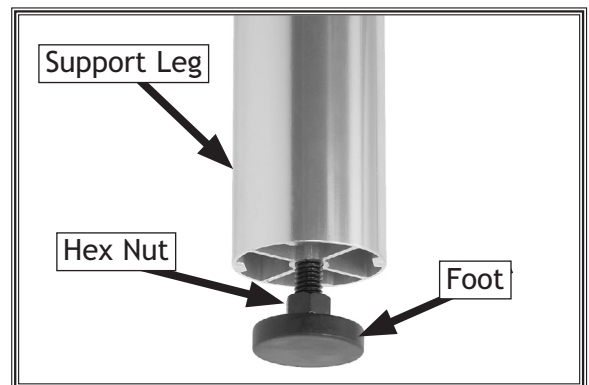

Figure 19. Foot installed on support leg.
10. Thread a $\frac{3}{8}$ -16 hex nut on each foot and thread the feet into the bottom of the support legs as shown in **Figure 19**.